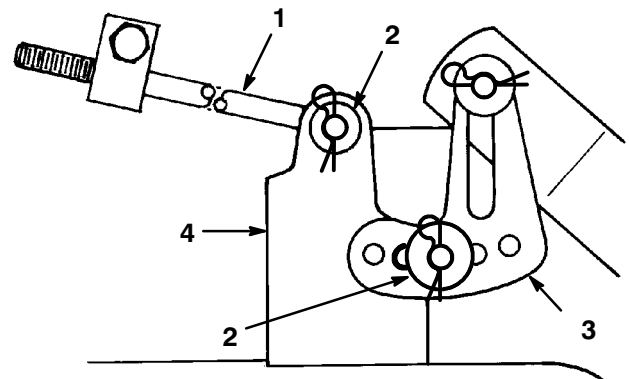

Figure 42
6. Slide the end of the long rod through the hole in the mower mount (Fig. 42). Install the washer and hair pin cotter to secure the rod in place. Repeat this step on the opposite side of the mower.
7. Mount the slotted mower leveling bracket onto the pin on the height-of-cut arm (Fig. 42). Install the washer and hair pin cotter to secure the mower. Repeat this step on the opposite side of the mower.